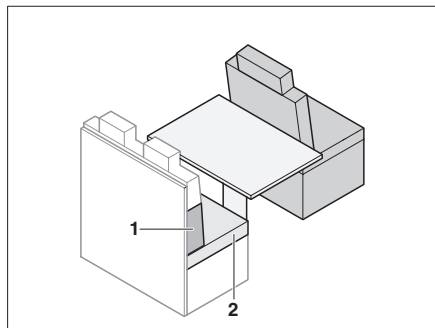

Fig. 117 Prior to conversion
- Remove the seat cushion (Fig. 117,2).
- Lay the back cushion (Fig. 117,1) between the seat cushion and the rear wall. Observe the wedged form.